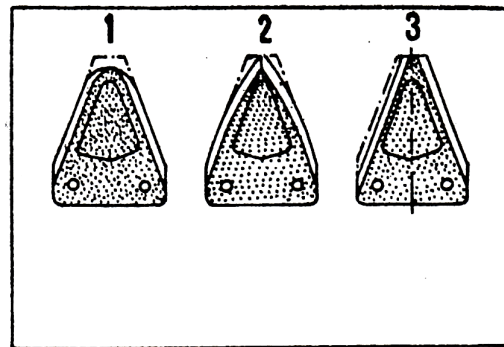

Figure 18
- Do not obstruct the cutting edge of the blade blade (figure 18, item 1).
- Do not grind the cutting edge of the cutter blade firmly (fig. 18, item 2).
- The profile of the cutting edge of the blade must be symmetrically ground (figure 18, item 3).